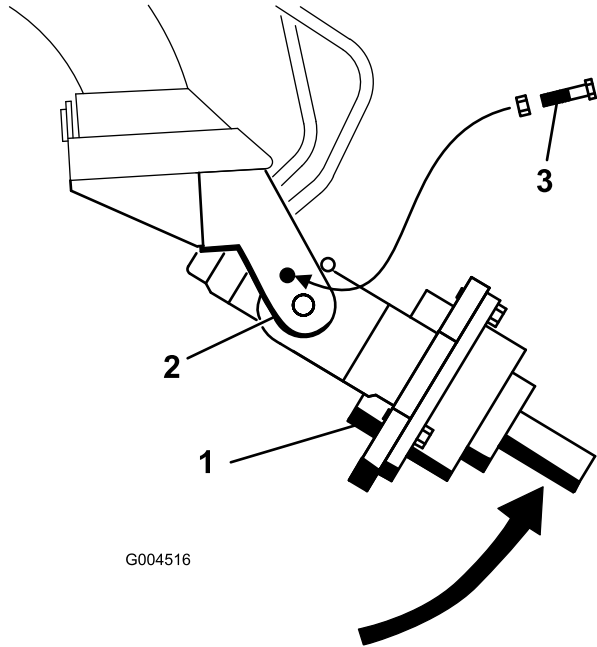

Figure 5
5. Manually rotate the auger drive head up, until you can slide a bolt (1/2 x 2-1/2 inches) into the hole in the cradle arm, securing the drive head. Lightly secure the bolt with a nut (1/2 inch) as shown in Figure 5.
3. Manually rotate the auger drive head up, until you can slide a bolt (1/2 x 2-1/2 inches) into the hole in the cradle arm, securing the drive head. Lightly secure the bolt with a nut (1/2 inch) as shown in Figure 5.